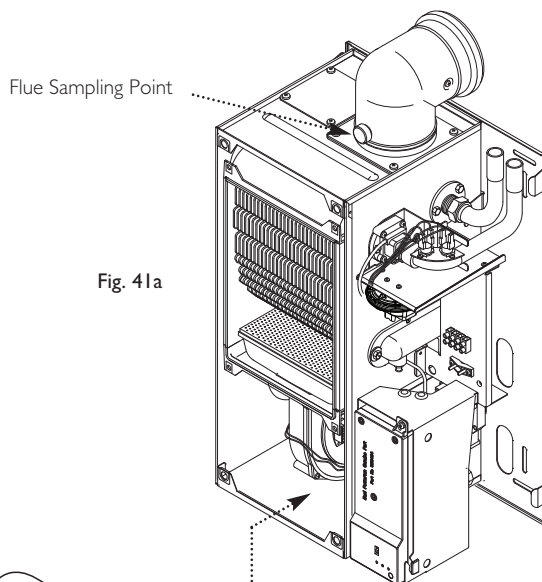

Fig. 41a
12. Check the CO/CO² ratio and CO² level at the flue sampling point (Fig. 41a) as quoted in Section 4.0, 'Technical Data'.